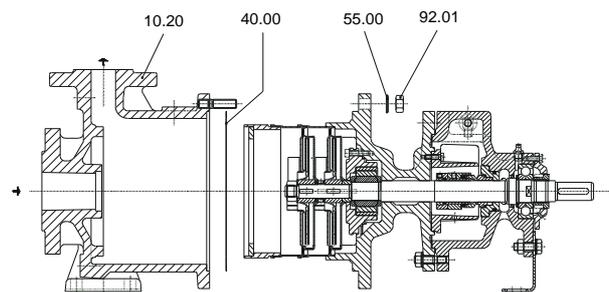

Fig. 1
3. Withdraw complete back pull-out unit from pump housing 10.20 and remove joint ring 40.00 (fig.1)